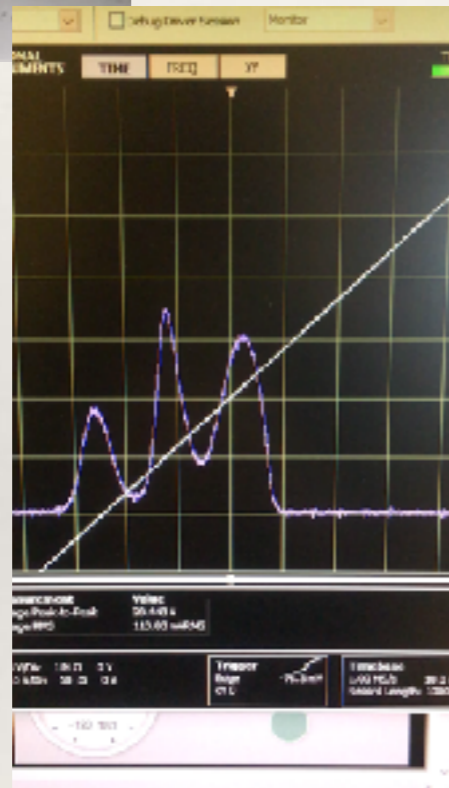

Fig.2. 21-28min/s CNT with ion beam.
- ❖ 21-28min/s CNT was not tensioned enough (Fig.2), which might underestimate the beam profile.